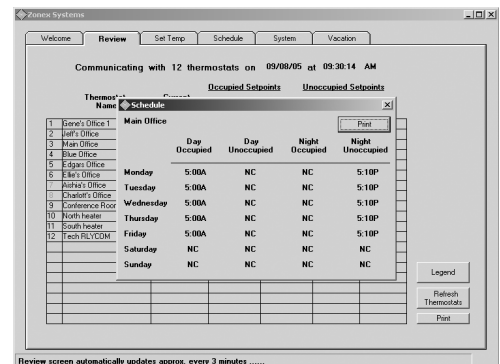

Fig. 19
2. Click on a thermostat name to display Schedules after they have been entered (see Fig. 19).
- Click on the thermostat name (see Fig. 19).